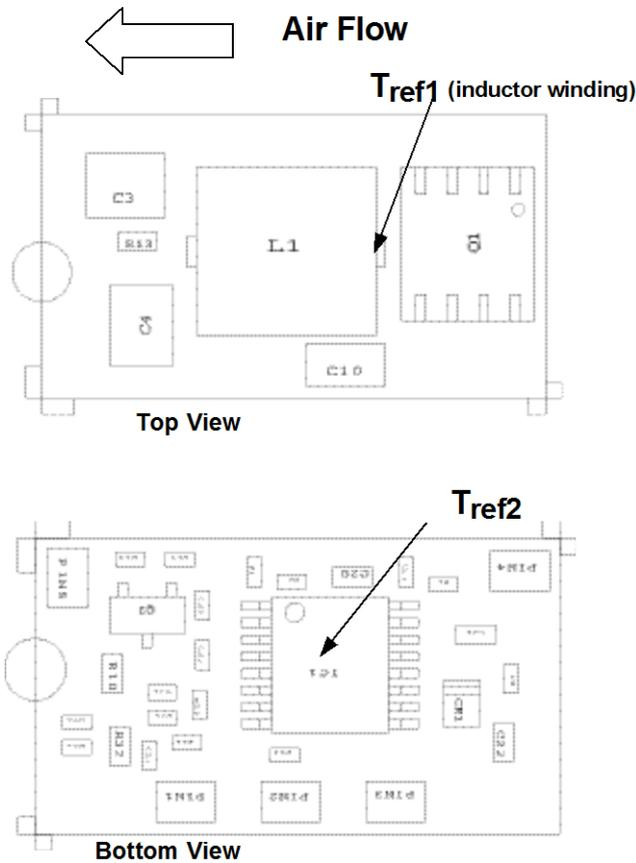
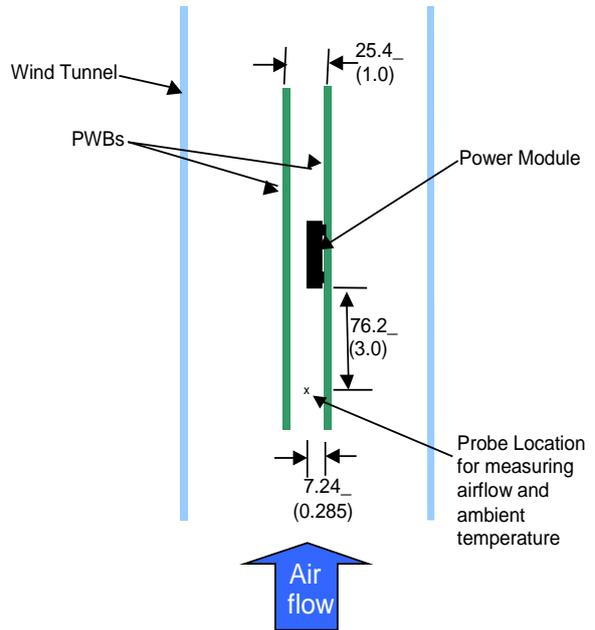

Figure 32. Tref Temperature measurement location.
Figure 33. Thermal Test Set-up.
Considerations include ambient temperature, airflow, module power dissipation, and the need for increased reliability. A reduction in the operating temperature of the module will result in an increase in reliability. The thermal data presented here is based on physical measurements taken in a wind tunnel. The test set-up is shown in Figure 33. Note that the airflow is parallel to the long axis of the module as shown in figure 32. The derating data applies to airflow in either direction of the module’s long axis.
The thermal reference points, T_{ref1} and T_{ref2} used in the specifications of thermal derating curves are shown in Figure 32. For reliable operation these temperatures should not exceed 125°C.